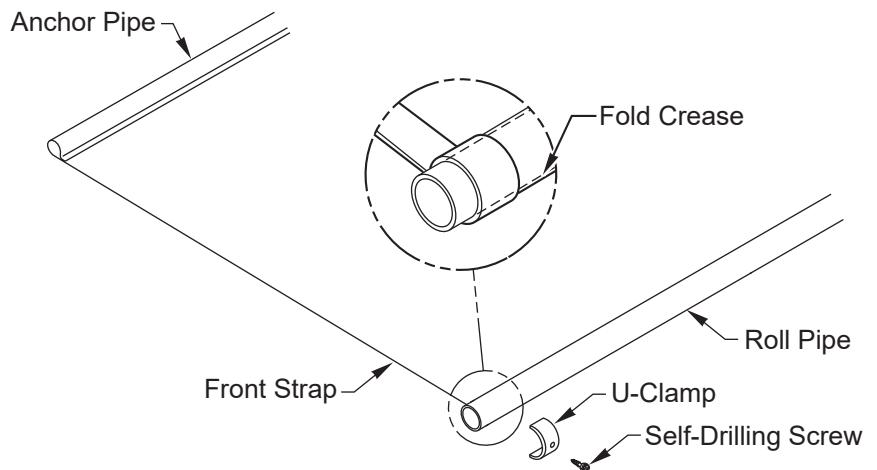

Figure 3
- 2) Figure 3.** Cut the anchor pipe flush with the ends of the pocket on the tarp.
- 4) Figure 3.** Slide the anchor pipe into the tarp pocket and secure with #14 x 1" PPH self-drilling screws.
- 5) Figure 3.** Slide the roll pipe into the other pocket and leave approx. 6" sticking out at the front of the tarp.
- 7) Figure 3.** At 1/4" from each edge of tarp, and spaced evenly along length, secure tarp to roll pipe with (5) U-clamps and #14 x 1" PPH self-drilling screws.